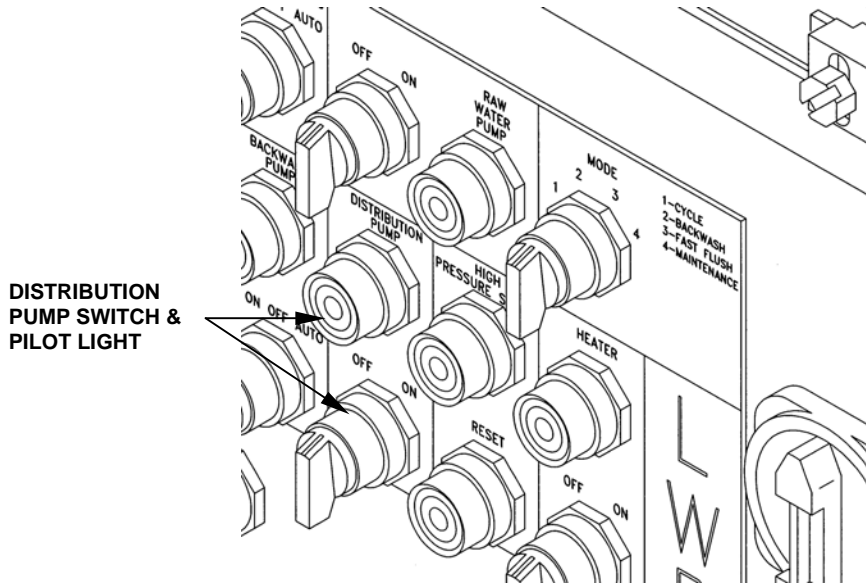

Figure 2. Control Module.
8. Place the DISTRIBUTION PUMP switch on the control module in the OFF position. See Figure 2.